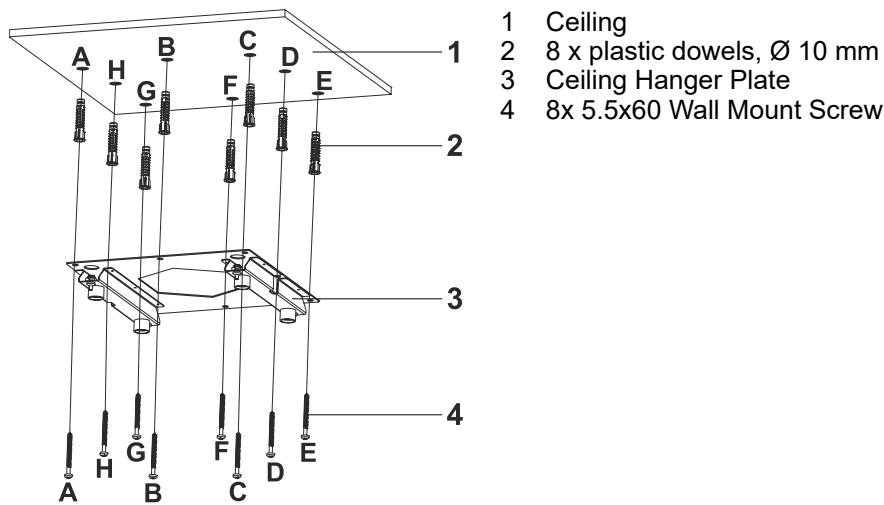

Fig. 13
1. ➔ Drill the ceiling surface where the product will be mounted (1) at points A, B, C, D, E, F, G, H with a Ø10 mm drill (Fig. 13).
2. ➔ Drive Ø10 mm plastic dowels into the drilled points A,B,C,D,D,E,F,G,H (Fig. 13).
3. ➔ Mount the ceiling connection sheet to the ceiling with 5,5x60 screws (4) at points A,B,C,D,D,E,F,G,H (Fig. 13).